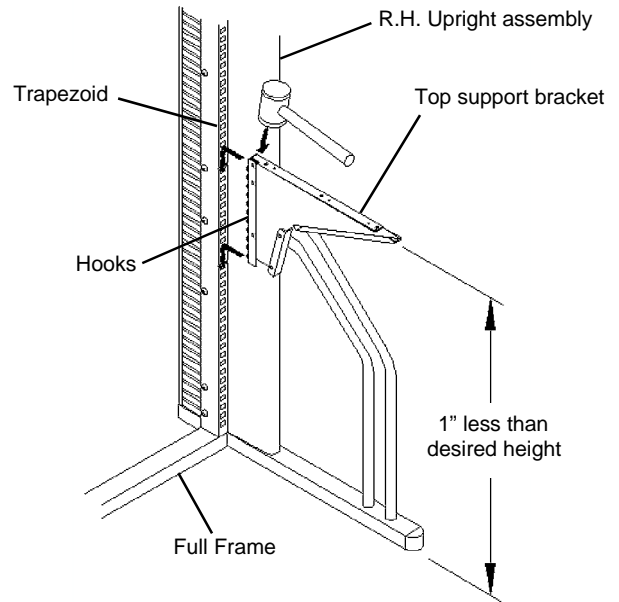

Figure 3
2. Insert the hooks of the Top Support into the slotted standard of the Full Frame and push down. To assure that the hooks are seated, tap the top rear corner with a plastic mallet or equivalent. See **Figure 3**.